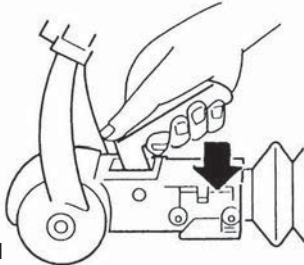

Fig. 1
to the towball. Push the black handle down and check the green indicator button is showing. **(Fig. 1)**
- Pass the cable through the attachment point and clip it back on itself (**Fig 1**).